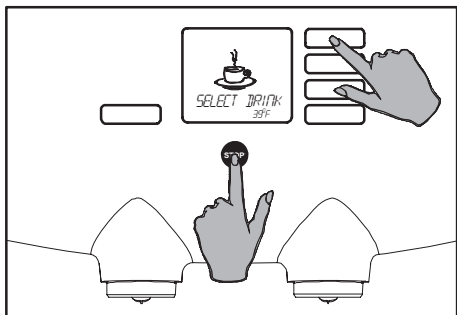

Fig. 62 Access the operator menu
1. Activate the operator menu (fig. 62), see also § "Access the operator menu" (fig. 27).